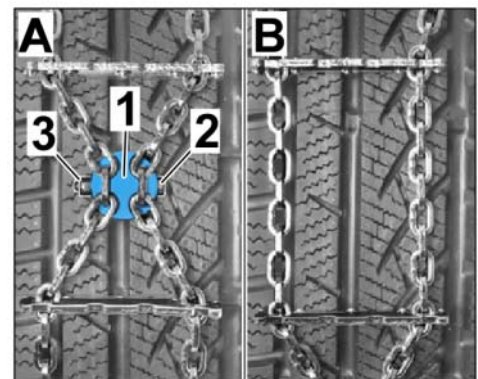

Figure 3
- 1.6.1 To "shorten" the snow chain: (⇒ *Figure 3-A-*):
- 1.6.2 "Extend" snow chain (⇒ *Figure 3-B-*):